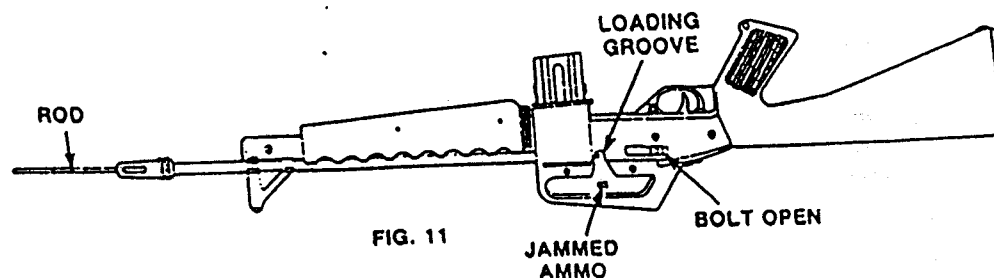

FIG. 11
E. With the air rifle "On Safe", open the bolt, insert a rod or straightened clothes hanger into the barrel and carefully push the jammed pellet or BB into the loading groove. Don't try to reuse that pellet or BB again. (Fig. 11)